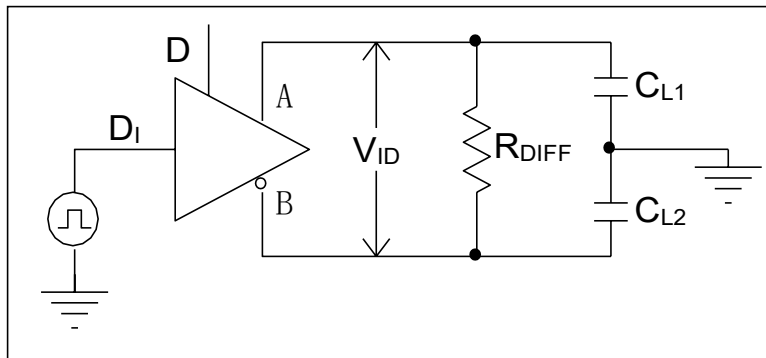

Figure 2 Driver Timing Test Circuit
- Test circuit diagrams see Figure 2